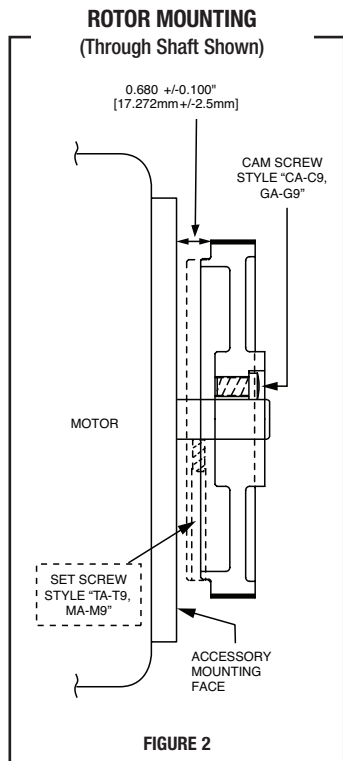
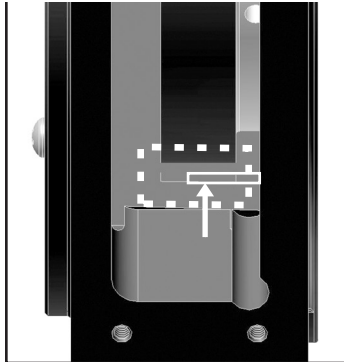

FIGURE 2
Figure 5
- Slide the rotor on the shaft (option "B" or "T"), ensuring the rotor label "this side out" is away from the motor. The space between the mounting face and the rotor must be set to 0.680" [17.27mm], as shown in Figure 2. Use Avtron gauge (XPHRIG08) or housing alignment grooves as shown in Figure 5 to verify position.
2. Verify the rotor magnetic stripe is aligned with the grooves (see Figure 5).